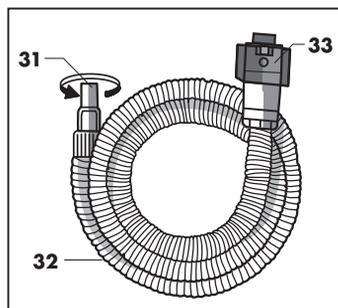

Fig. 29
To use the accessories, introduce the connection piece (33) of the work hose (32) (**Fig. 29**) into the accessories socket - in place of the hose - as described on page 28 (**Fig. 8**) under section "Connecting the hose".